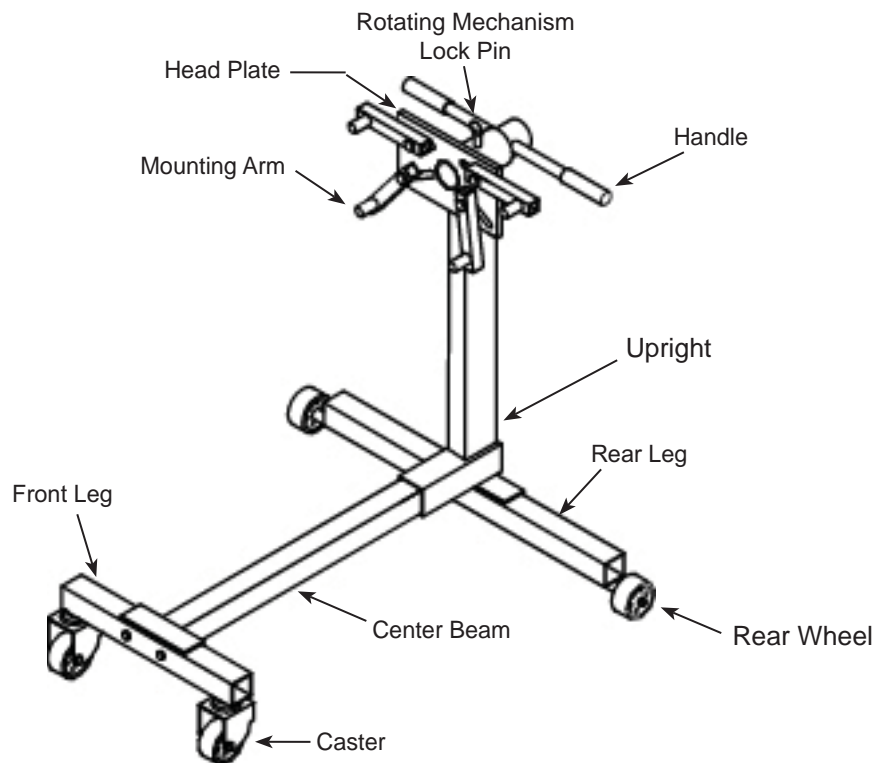

Figure 1 - ATD-10137 components
4. To rotate engine, slowly and carefully release locking mechanism. Use original handle to rotate, then secure by engaging locking mechanism (see Fig.1 & 2).